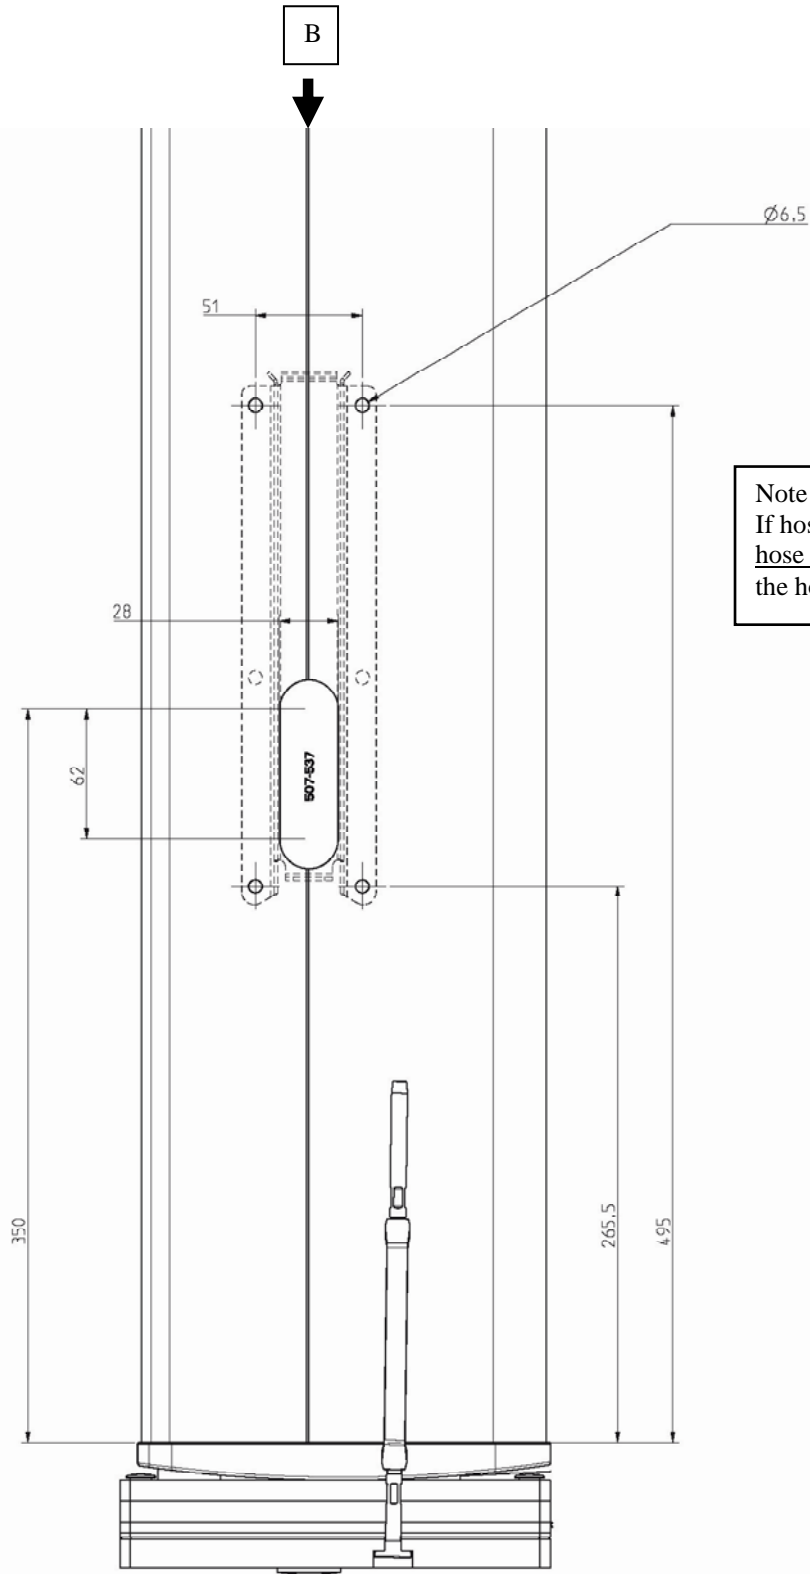

Fig. 2
2. Cut out for cable and hose exits, see fig. 2. Grind edges carefully.
17. Fit hose garage inside mast with pop rivets. See fig. 2. Make sure that the hydraulic hose is lead down into the garage from above and that it can be slid easily up and down through the garage/exit.